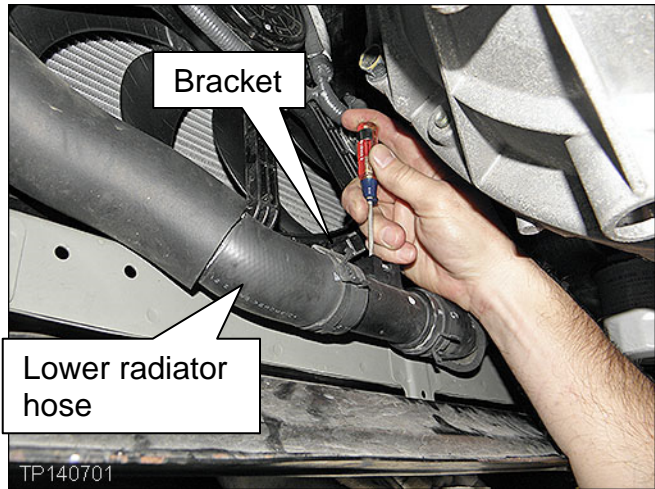

Figure 2
3. Disconnect the lower radiator hose/tube from the mounting bracket show in Figure 2.